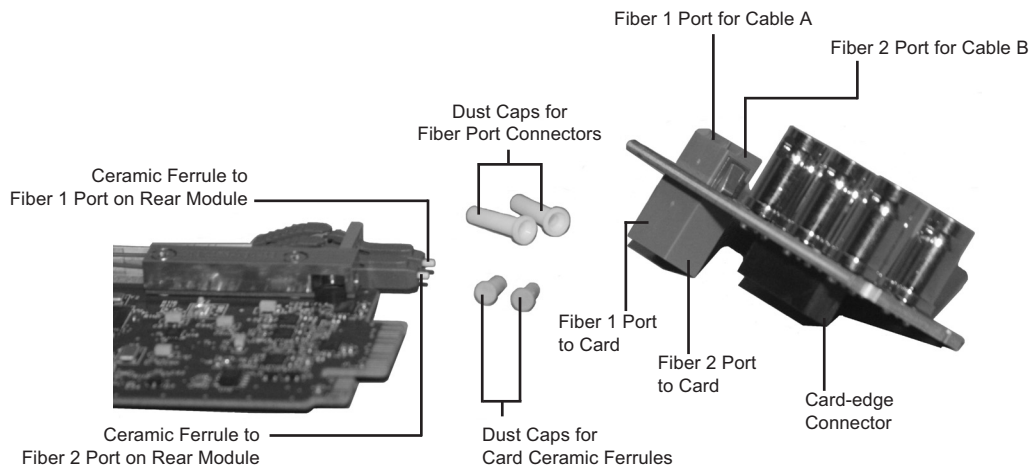

Figure 2.2 Card Connectors with Dust Caps Removed — 8320AR-044 Rear Module Shown
3. Remove the dust caps from the Fiber ports on the Rear Module that faces the interior of the frame. Refer to **Figure 2.2** for dust cap locations.